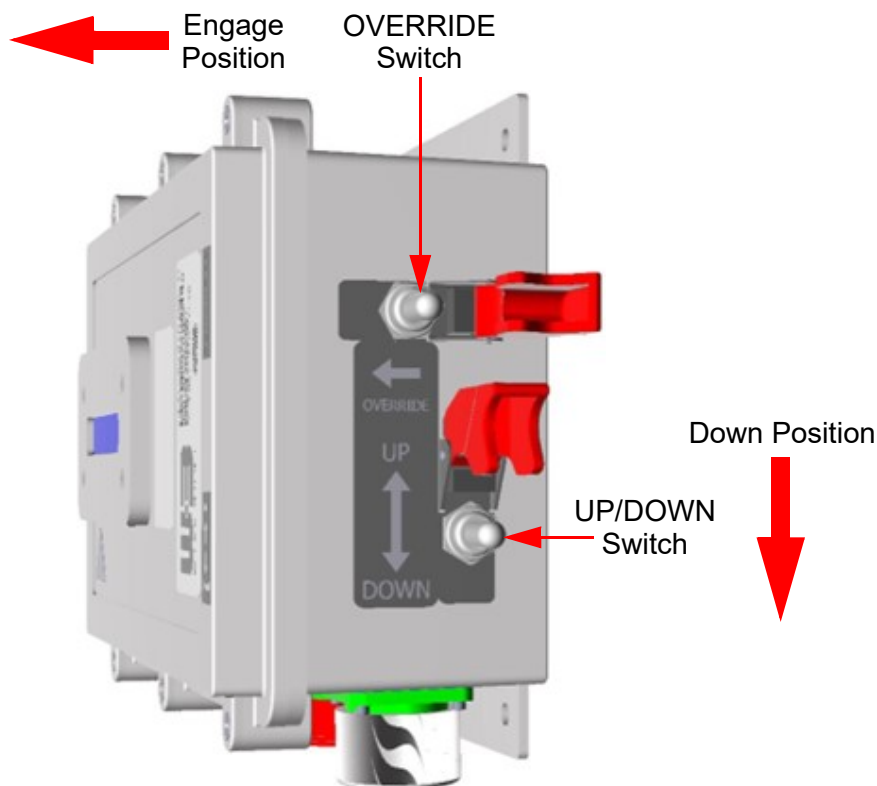

Figure 6-4 OVERRIDE Switch Engage Position and UP/DOWN Switch Down Position
2. Hold the OVERRIDE Switch in the engage position and hold the UP/DOWN Switch in the down position (Figure 6-4). As long as both switches are held, the mast will retract and the display will show the appropriate intermediate extension height. Be sure to stay clear of the collars during operation as they create a pinch point hazard.